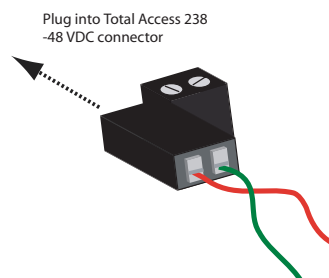

Figure 9. –48 VDC Connector
2.	If removed, re-insert the connector into the plug on the rear panel. See <a href="#">Figure 9</a> .